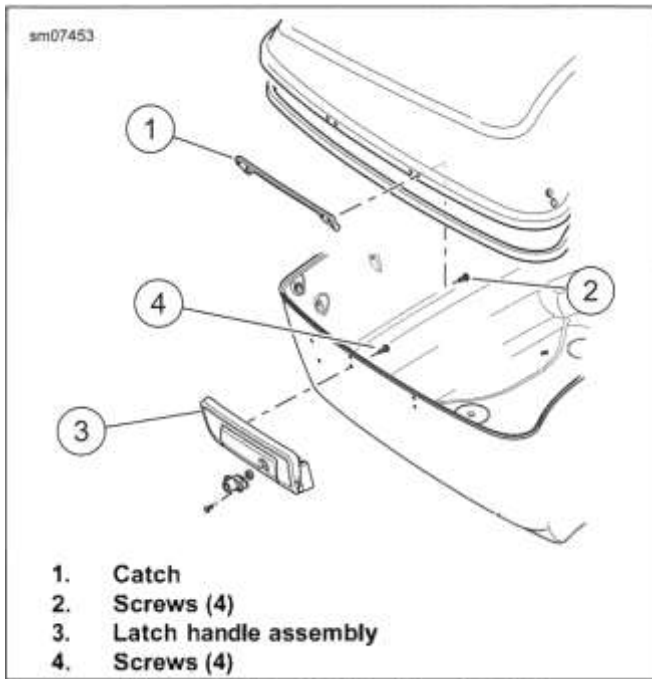

Figure 3-185. Latch Handle and Catch
2. See Figure 3-185. Remove screws (4).
3. Remove latch handle assembly (3) with lock.
4. Remove screws (2).
5. Remove catch (1).
1. See Figure 3-185. Secure catch (1) to lid with screws (2). Tighten.